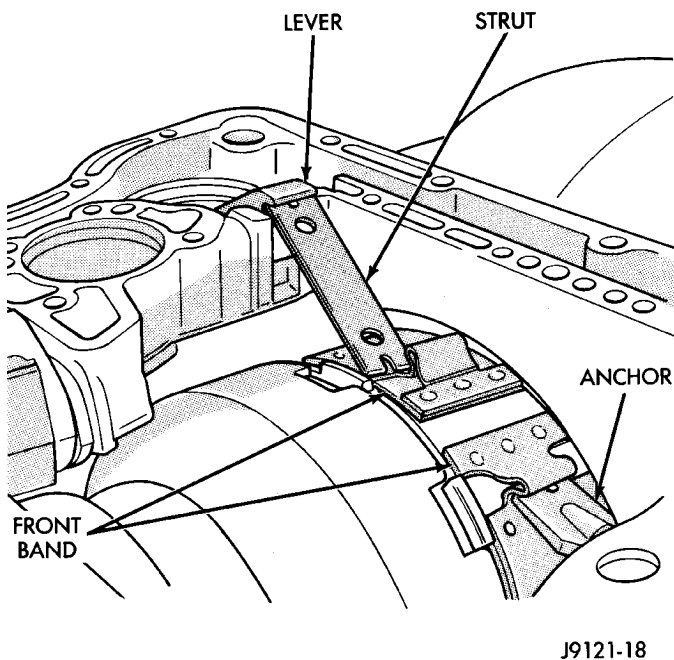

Fig. 139 Front Band And Linkage
(9) Position front band lever in case and over servo rod guide. Then install front band lever pin in case and slide it through lever.
(10) Coat threads of front band pin access plug with sealer and install it in case. Tighten plug to 17 N·m (13 ft. lbs.) torque.
(11) Slide front band over front clutch retainer and install front band strut and anchor (Fig. 139).